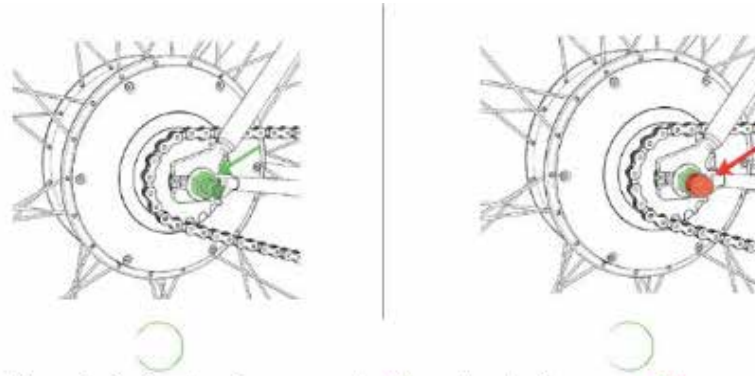

Figure 1: 6-pin charging connector (1) and protection cover (2)
- ✎ DO NOT use the bike without the protection covers for the charging connector (see Figure 1). Warranty is void if the bike is being used without protecting the connector. Please observe all national regulations on registering and using e-bikes.
- ✎ IF your Hummingbird wheel has a 6 pin connector (see Figure 1), please be careful to insert the 6 pin charger plug in the 6-pin connector in the proper way. Otherwise short circuits can occur. Warranty is void if charger is not inserted correctly. Do not short circuit the pinout of the charging connector.